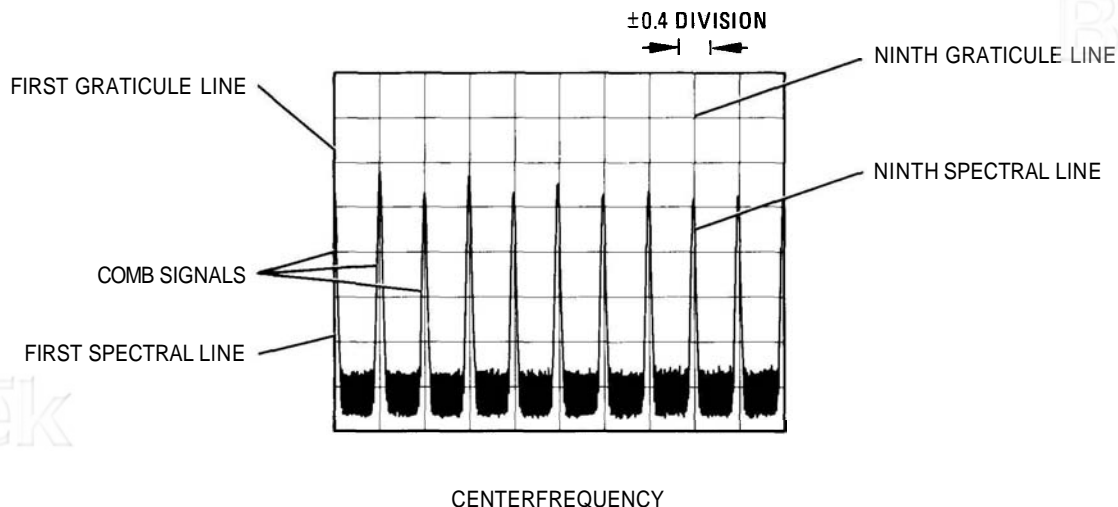

FIGURE 4-3. FREQUENCY SPAN ACCURACY MEASUREMENT FOR NINTH SPECTRAL LINE
6. Set comb generator **COMB FREQUENCY**—MHz for 10-MHz comb. Set spectrum analyzer **FREQ SPAN/DIV** to 20 MHz. Adjust **TUNING** control to position one spectral line on the first graticule line. Measure the error between 17th spectral line and ninth graticule line as shown in Figure 4-3. Error should be no greater than  $\pm 0.4$  division.